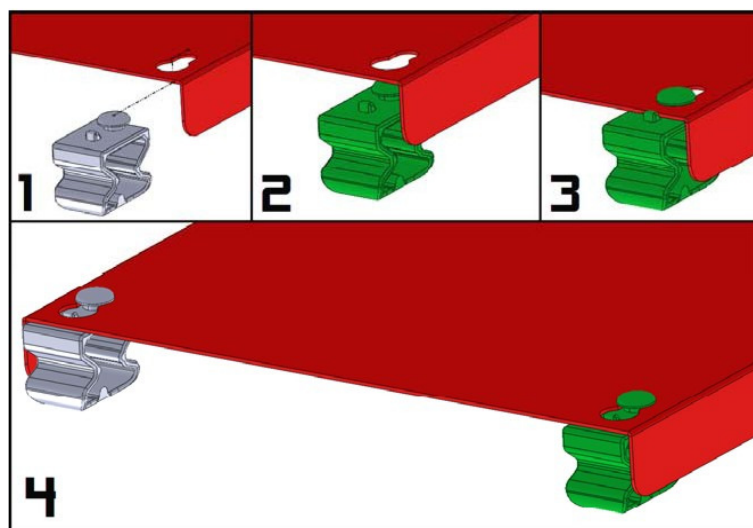

Figure 12, Inserting the stoppers
- 2** Prepare the staves by inserting the four stoppers, as shown in Figure 12.